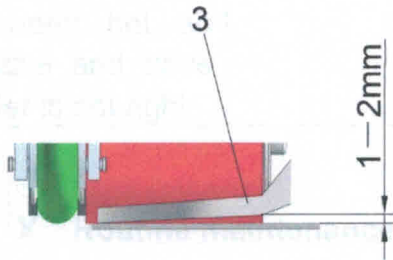

Figure 5
1. The distance between hot air nozzle and ground should be shown as figure 5. (We have adjusted the distance before leaving factory).